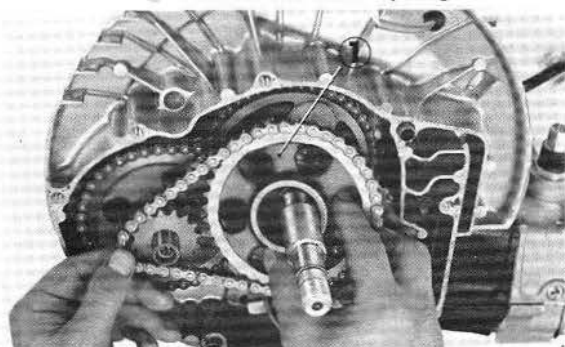

Fig. 2-36 ① Final driven sprocket
5. Remove final driven sprocket. (Fig. 2-36)